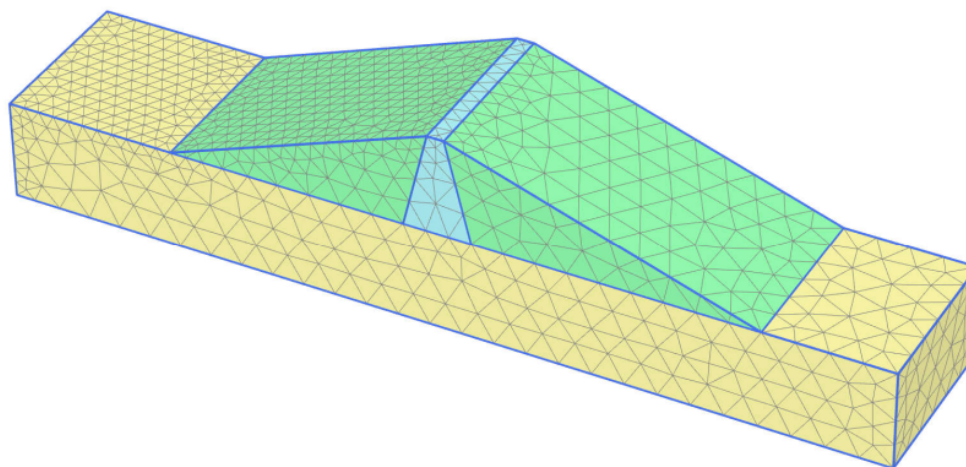

Figure 115: The generated mesh
4.  Click the **View mesh** button in the side toolbar to preview the mesh. The resulting mesh is displayed on Figure 115 (on page 140):